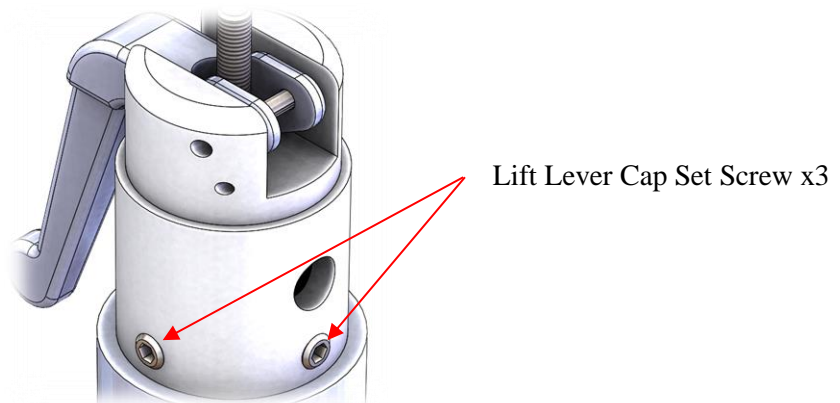

Figure 14: Lift Lever Cap Set Screws
4. Loosen the three lift lever cap set screws. See Figure 14. These must be unscrewed enough so that they no longer engage the lift lever lock nut.